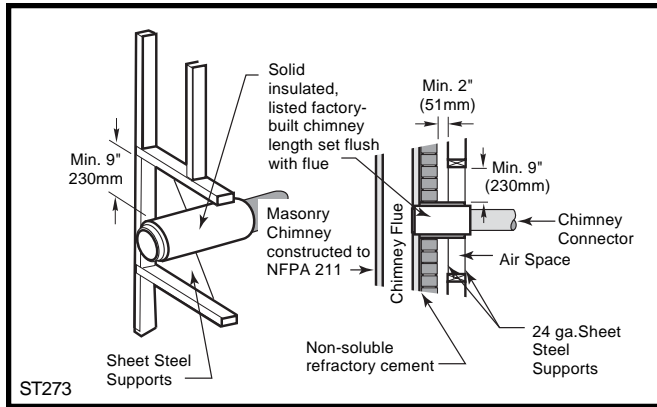

Fig. 10 Wall Pass-through using factory-built insulated chimney section.
- Using a section of double-wall chimney with a 9" (229mm) clearance to combustibles. (Fig. 10)